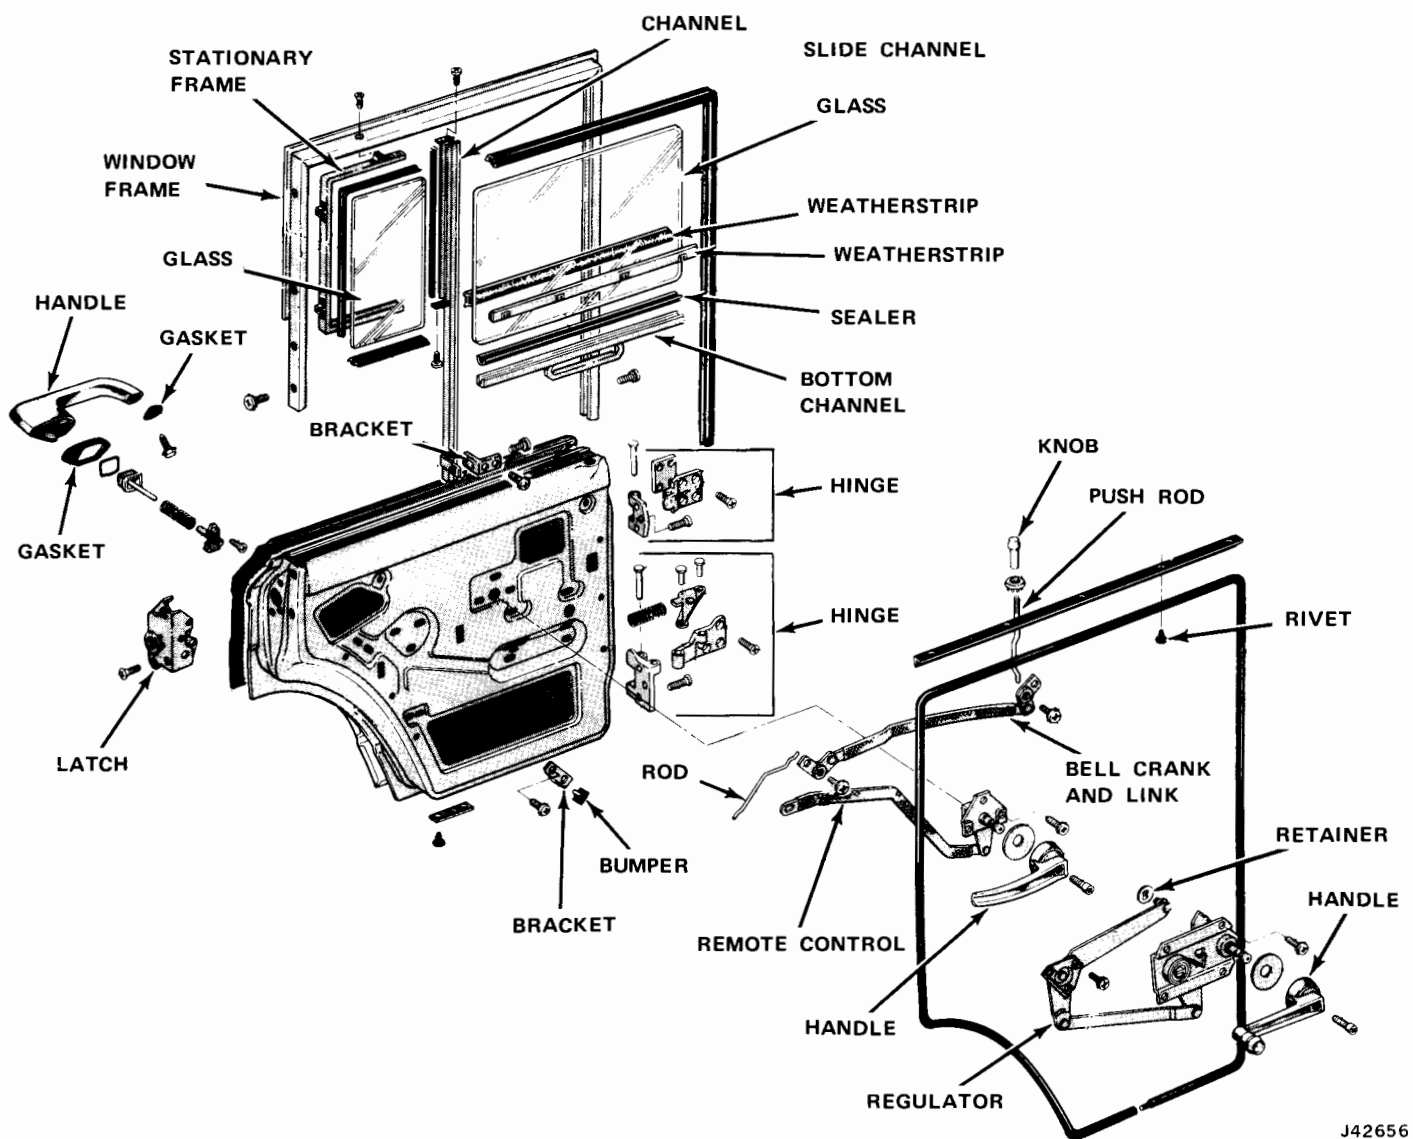

Fig. 15-4 Rear Door—Wagoneer
(1) Remove trim panel and water shield.
(2) Remove door lock push knob.
(3) Remove screws attaching lock control arm to inner door panel.
(4) Remove lock lever rod.
(5) Remove door latch attaching screws.
(6) Disconnect remote control arm and turn latch 90°.
(7) Remove lock lever rod and bellcrank (fig. 15-4).
(1) Remove door trim panel and water shield.
(2) Remove glass stop bracket.
(3) Remove rear glass channel lower attaching bracket.
(4) Lower door glass to obtain access to retainer clip.
(5) Remove retainer clip, disengage pin from slot in channel and lower glass to bottom of door (fig. 15-4).
(6) Remove inner and outer belt weatherstrips.
(7) Remove upper glass channel.
(8) Remove stationary vent assembly attaching screws (fig. 15-4).
(9) Tilt top of vent assembly forward approximately one inch.
(10) Push lower end of rear glass channel toward rear of door to release glass.
(11) Move glass toward rear of door to release glass from front channel.
(12) Rotate glass 90° and guide glass between inner and outer door panels.